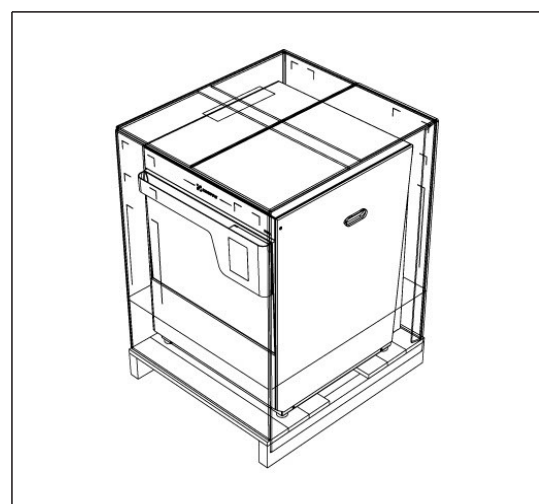

Fig. 2
1. Open the cardboard packaging carefully (fig. 2).